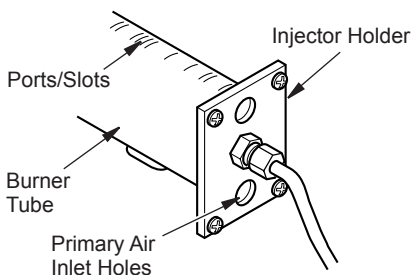

Figure 42 - Injector Holder On Outlet Burner Tube
2. Inspect burner, pilot and primary air inlet holes on injector holder for dust and dirt (see Figure 42, page 27).